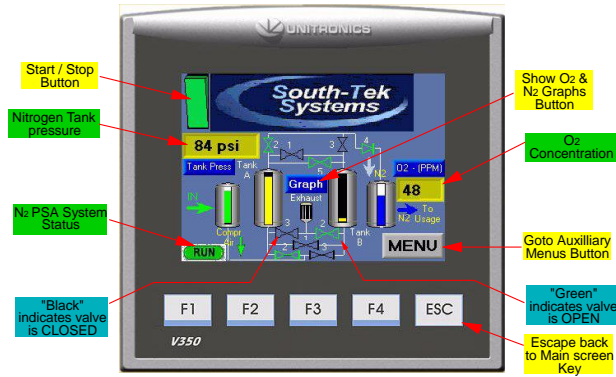
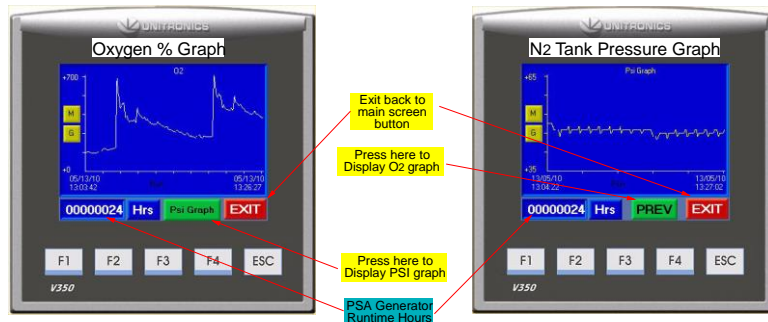

Figure 1: Power Switch/System Status
Figure 2: Graph Menu
From the “Main Screen”, the user can access the “Run Hour” and graphic displays of the O2% content and N2 Storage tank pressure. To do so, touch the icon labelled “Graph” (see Figure 1). The bottom left shows the total run hours. The graph shows the current running O2 %. To see the N2 Tank pressure, click on the green PSI button to switch the graph (See Figure 2).
The PLC comes standard with a pressure indicator to display the current pressure inside the Nitrogen Storage Tank. Looking at the above **Figure 1**, the tank pressure can be view on the left side on the main screen.
8. When Product Pressure reaches the cut-out pressure (see **5.2.3**), the green "Run" indicator will switch to the amber "Standby" indicator (see **Figure 1**) and nitrogen production will stop. When product is used and Product Pressure falls to the cut-in pressure, the "Standby" indicator will switch back to "Run" and nitrogen production will resume.